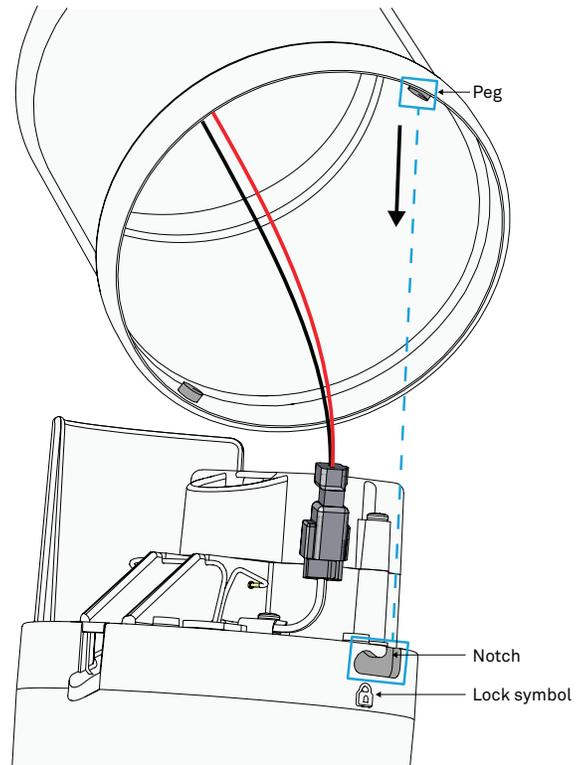
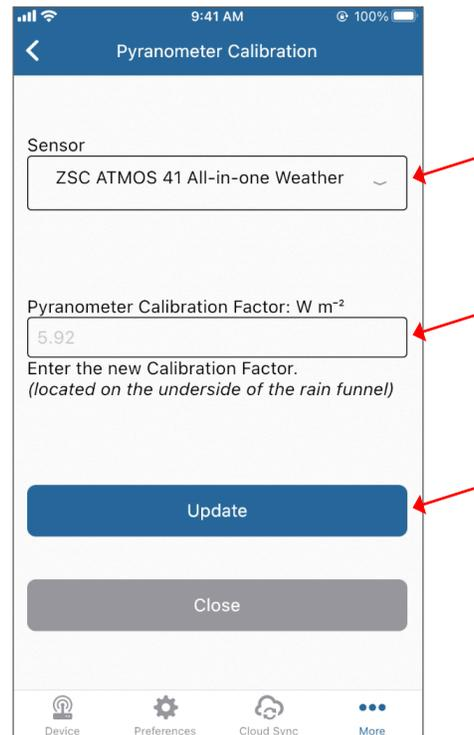

Figure 6 Align new funnel
Figure 16 Enter CAL Factor value
10. Line up the pegs on the inside of the funnel with the notches on the ATMOS 41 (Figure 6).
10. Confirm that the ZSC ATMOS 41 All-in-one Weather Station is the sensor listed (Figure 16).
11. In the text box below the label Pyranometer Calibration Factor: $W \cdot m^{-2}$ (Figure 16), enter the new pyranometer CAL Factor printed on a label inside the ATMOS 41 replacement funnel (Figure 6).
The new pyranometer CAL Factor is printed on a label inside the ATMOS 41 replacement funnel (Figure 6).